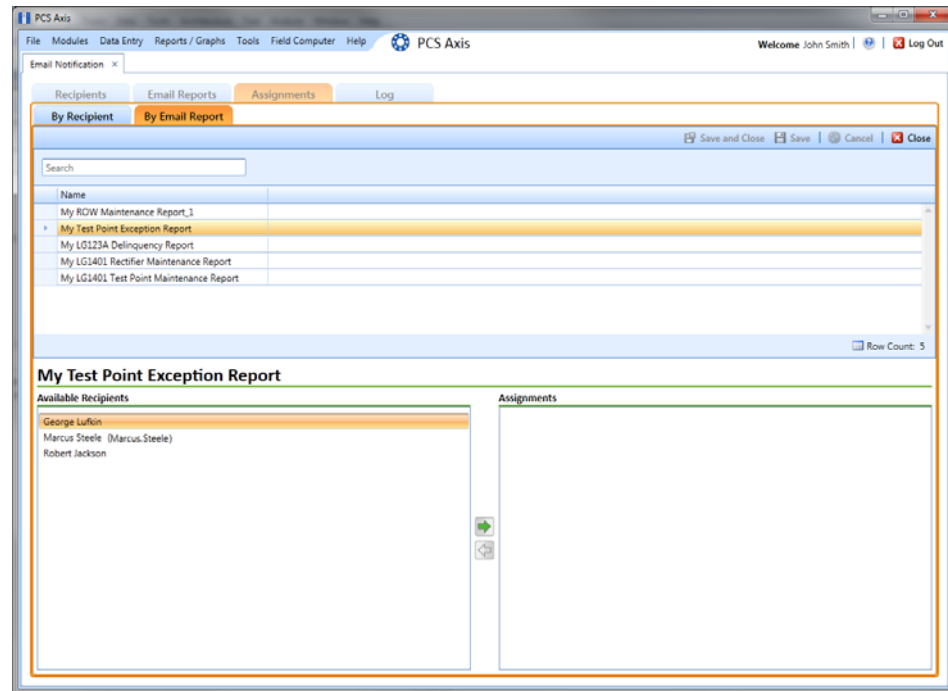

Figure 11-14. Assignments by Email Report
- a Click **By Email Report** **By Email Report** (Figure 11-14, page 465).